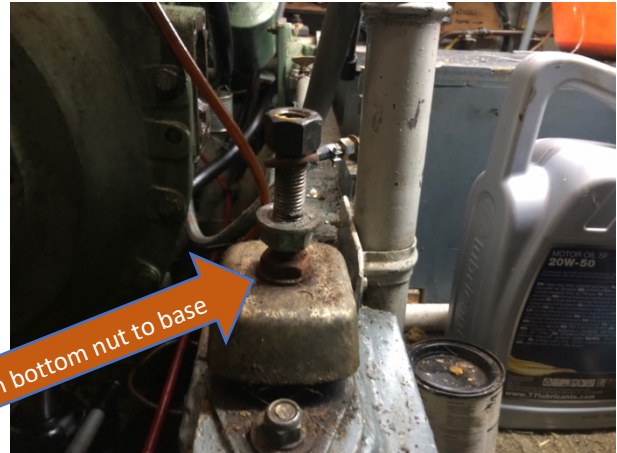

Figure 2 Engine studs removed from Drive
1. The studs are resting on the on the bottom nut from the engine mount. (Fig.2 already removed) It is very important not to turn this bottom nut as it determines the angle of the engine with the shaft. Either you measure the gap that is at the bottom of this nut(see arrow), or to be safe put some duck-tape around this bottom nut, to the bottom of the structure to prevent it from turning.